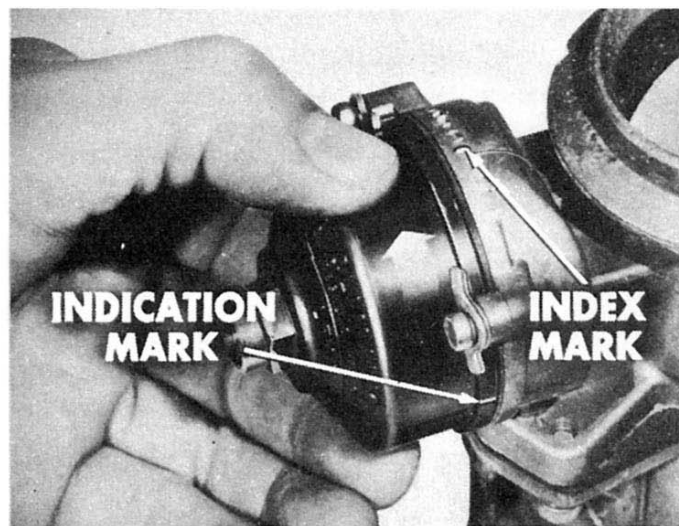

FIG. 16
10. Install the coil housing assembly. Indication mark on the housing should be in the straight down position. Install the retainer clips and screws loosely. Hold the coil housing in place and slowly turn the assembly counterclockwise until the indication mark on the housing is in line with the center index mark on the air horn (see Figure 16). During this operation you should feel a slight tension as the hooked end of the thermostatic coil picks up the choke operating lever.